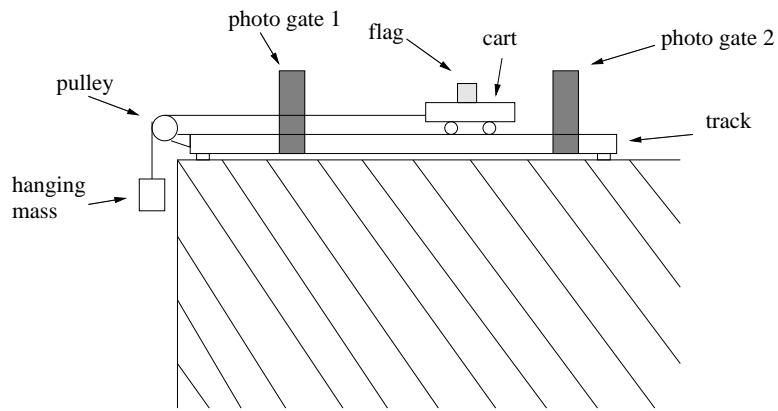

Figure 1: Setup for the Newton's 2nd Law experiment
Assemble your cart and track to look similar to the setup illustrated in Figure 1. For any step appearing to have already been completed, it is important to verify that it is, indeed, configured correctly as your data depend on it.
- (i) The cart must start moving *before* it enters the first photo gate (right-hand gate in Fig. 1) and
- (ii) The flag must pass through the second photo gate (left-hand gate in Fig. 1) *before* the hanging mass reaches the floor.